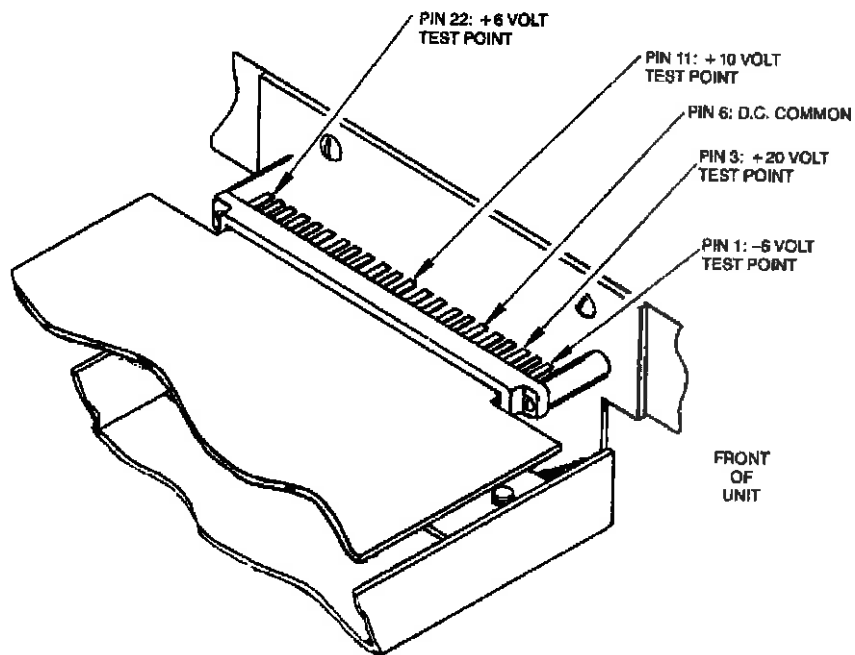
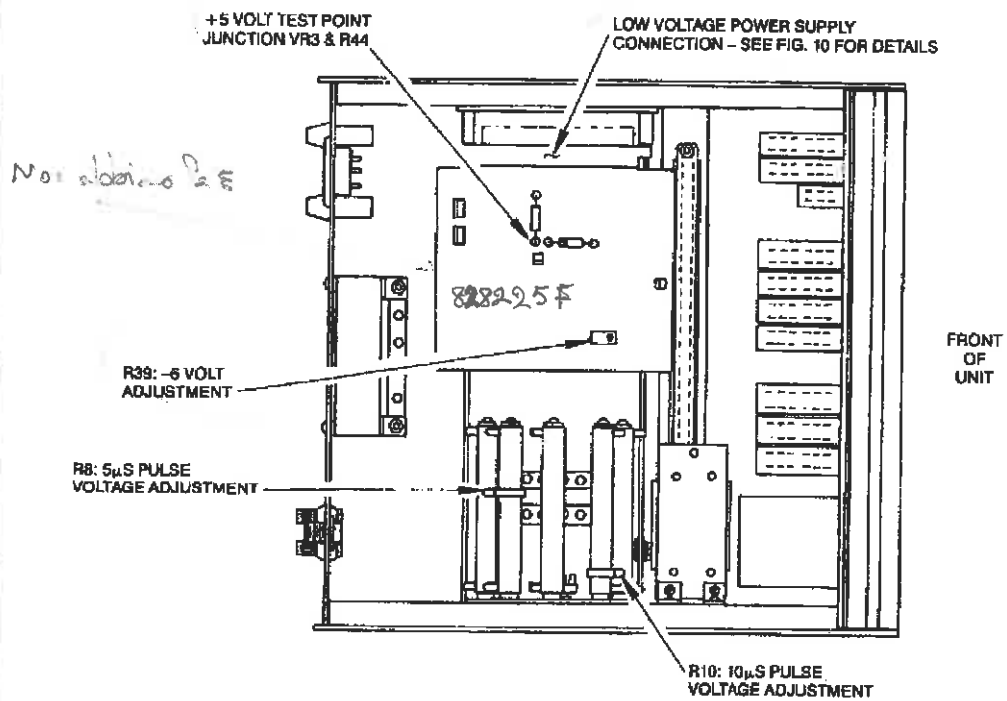

FIG. 10 LOW VOLTAGE POWER SUPPLY CONNECTOR TEST POINTS
FIG. 11 BOTTOM VIEW VOLTAGE TEST AND ADJUSTMENT POINTS
7.4.1 Connect negative probe of the digital D.C. Voltmeter to pin 6 on the plug at the base of the plug-in board. Pin #1 is nearest the front of the unit. See Fig. 10 and Fig. 11. Alternatively, the probe can be placed on the negative end (case) of the 500  $\mu$ F (C8, Fig. 16) capacitor located on the p.c. board.
7.4.5 Connect the positive voltmeter probe to the junction of VR3 and R44. Refer to Fig. 11. This voltage should be between 4.5 and 5.2. Record the exact voltage for future reference.
7.7.1 Turn the unit over so that it can be viewed from the bottom with the front panel toward you (Fig. 11). Locate the high wattage resistor, R8, with a green wire on the tap (in the cluster of resistors on the left side as viewed from the front).
7.7.3 Locate the high wattage resistor, R10 (Fig. 11), with a yellow wire connected to the tap (in the cluster of resistors on the left side as viewed from the front). Depress the 10.0  $\mu$ S pushbutton and adjust the controls of the oscilloscope to view the pulse (5  $\mu$ S/Div) and note the peak amplitude. If the amplitude is not 600 volts, adjust the tap on R10 to exactly 600 volts, peak, on the oscilloscope.